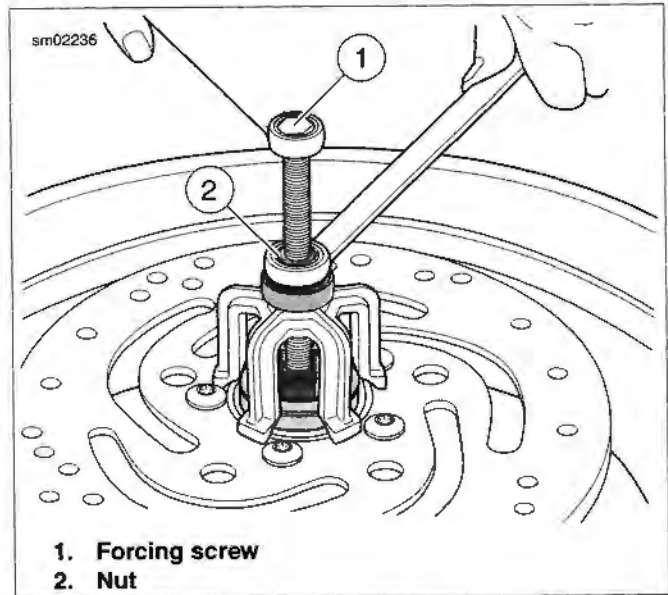

Figure 2-14. Remove Bearing
- a. Sparingly apply graphite lubricant to threads of forcing screw (1) to prolong service life and verify smooth operation.
- b. Install nut (2), washer (3) and bearing (4) on screw. Insert assembly through hole in bridge (5).
- c. Drop ball bearing inside 25 mm collet (6). Fasten collet and ball bearing to forcing screw.
5. See Figure 2-14. When expanded collet has gripped bearing edges, hold end of forcing screw and turn the nut to remove bearing from wheel.